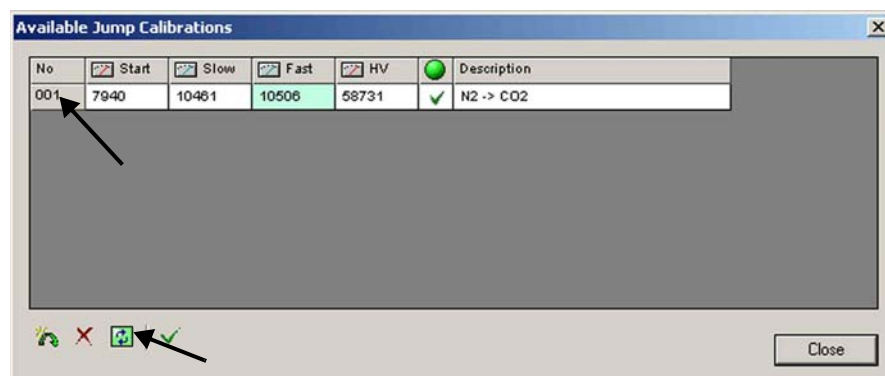

Figure 6-5. Available Jump Calibrations
The list of available Jump Calibrations appears. See Figure 6-5.
2. In the list of available Jump Calibrations (Figure 6-5) mark the one for $N_2 \rightarrow CO_2$ by clicking on its **No.**, for example **001**.